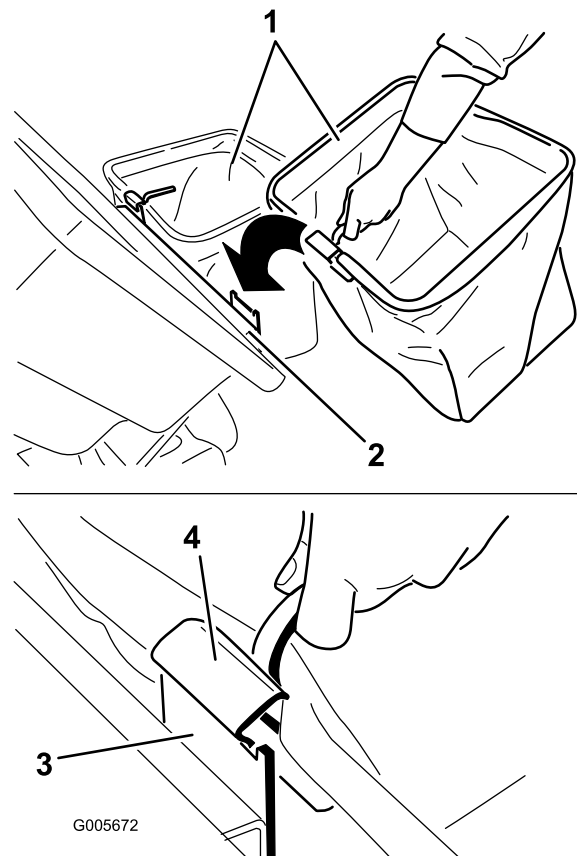

Figure 26
5. Install the bags by sliding the bag frame hooks onto the retaining brackets (Figure 26).